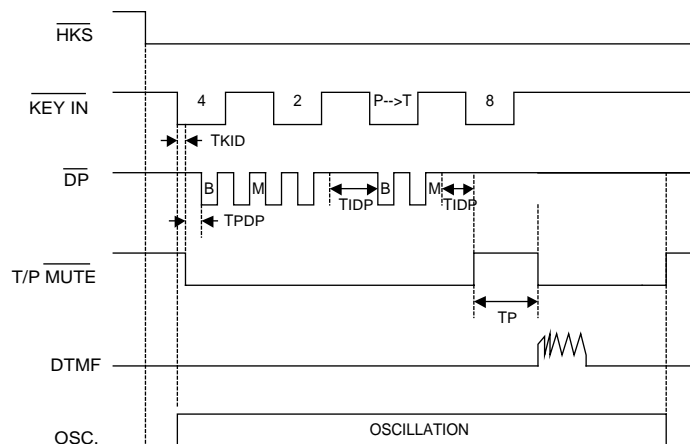

Figure 4. Pulse-to-tone Function Timing Diagram
- 4) The P→T function timing diagram is shown in Figure 4.